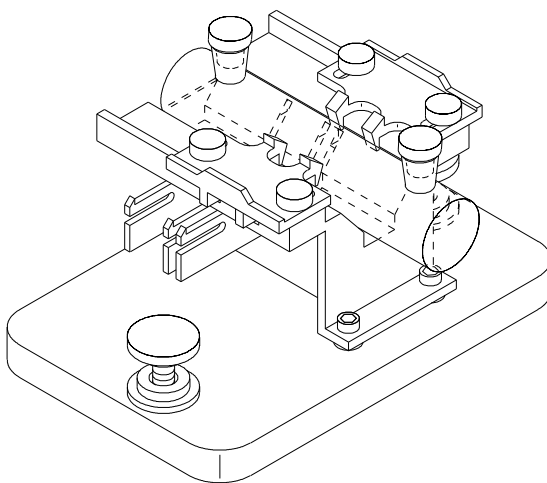

Figure 19 Installed 10-cm Cylindrical Cell in the Long Path Cell Holder
- 5 Allow the clamps to close against the sample cell, see Figure 19. Tighten the four screws that hold the sample cell in place.